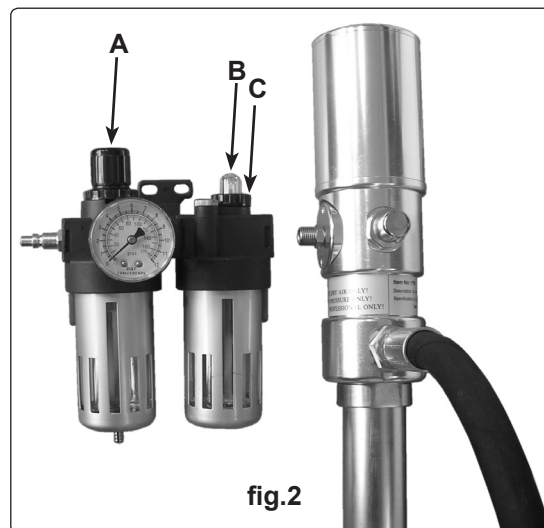

fig.2
- 3.2.1 Apply a small amount of liquid thread sealant onto the threads of the air inlet of the pump and attach the air regulator/lubricator (fig.2).